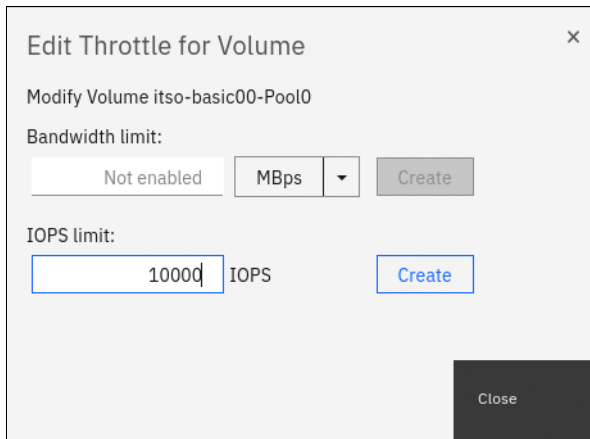

Figure 6-32 IOPS throttle on a volume
2. In the Edit Throttle window, define the throttle in terms of number of IOPS or bandwidth. In our example, we set an IOPS throttle of 10,000, as shown in Figure 6-32. Click **Create**.